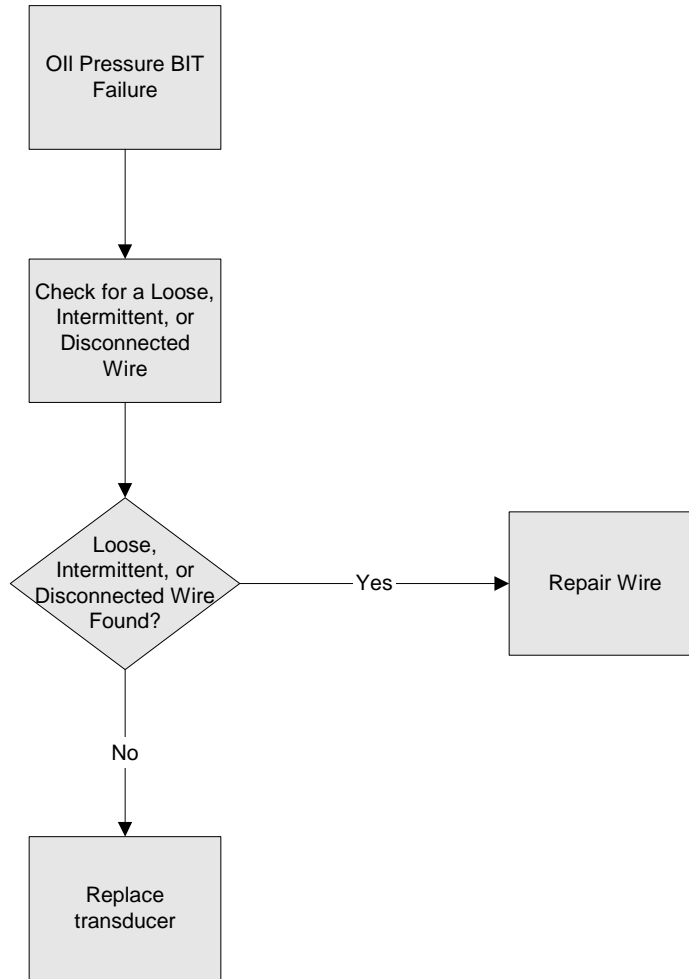

Figure 46: Oil Pressure BIT Failure Troubleshooting
- c. Transducer BIT Failure – Refer to Figure 46.